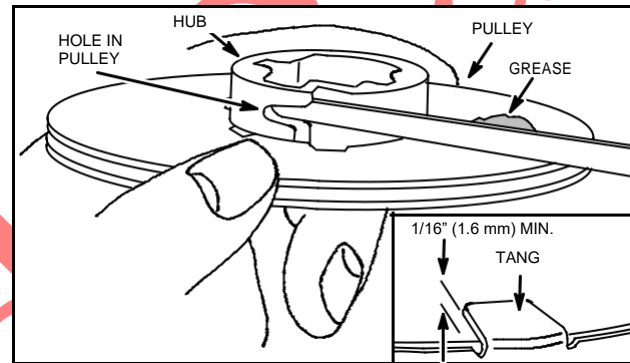
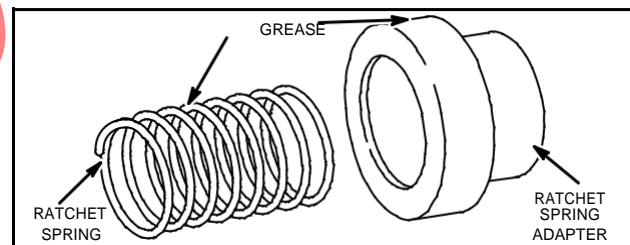

Fig. 4 – Install Spring
Fig. 5 – Lubricate Adapter
3. Insert either end of spring through slot in starter housing and hook into pulley, Fig. 4.
4. Place a dab of grease on pulley, Fig. 4, and ratchet spring and ratchet spring adapter, Fig. 5.
5. Set ratchet spring, ratchet spring adapter and pulley into rewind housing and bend tang down, Fig. 4. Tang bender, Tool #19229, can be used to adjust tang gap, Fig. 4. Pulley must be fully depressed when measuring tang gap.